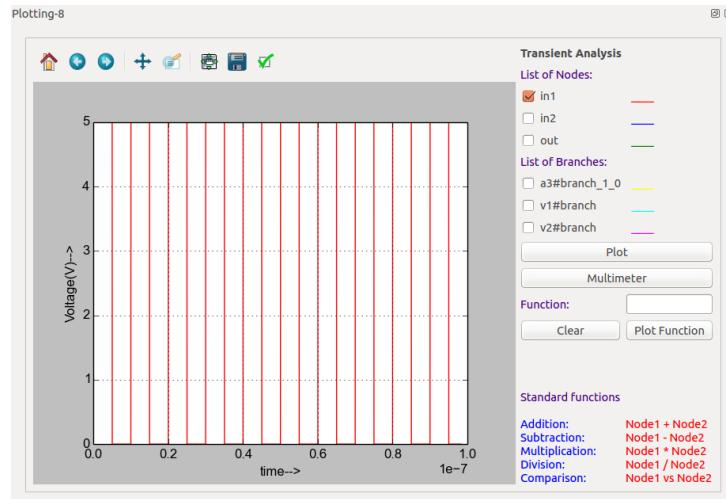
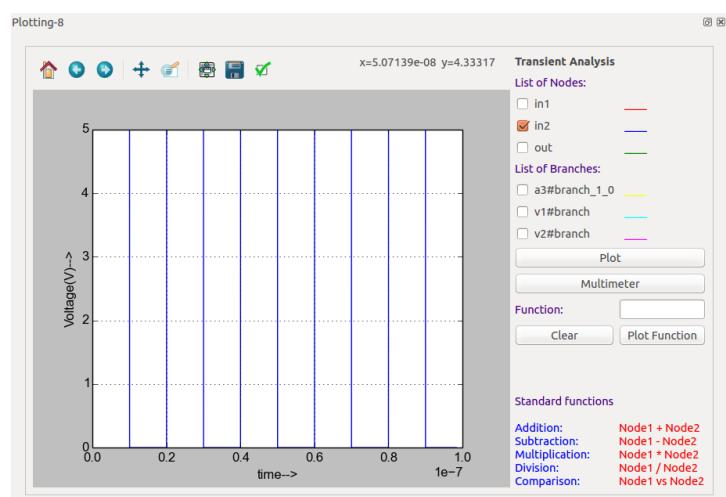
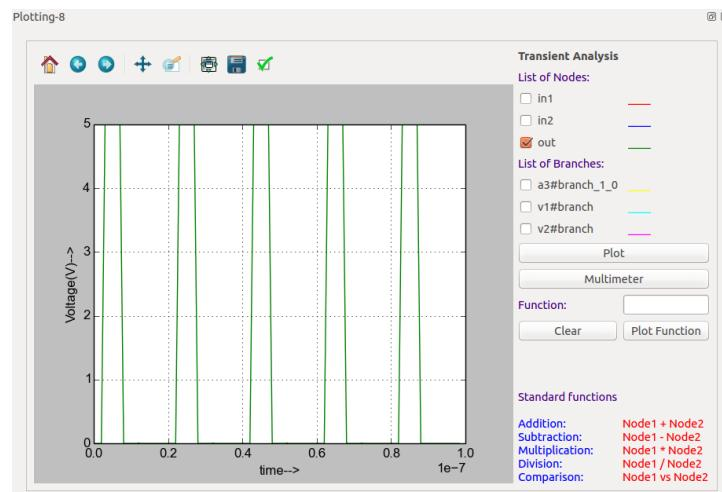

Figure 10.17: Plot of Source V1
Figure 10.18: Plot of source V2
Figure 10.19: Plot of output
- Now select the required nodes and click on Plot button. You can see the plots of input source v1, input source v2 and output as shown in Fig. 10.17, Fig. 10.18, and Fig. 10.19 respectively.